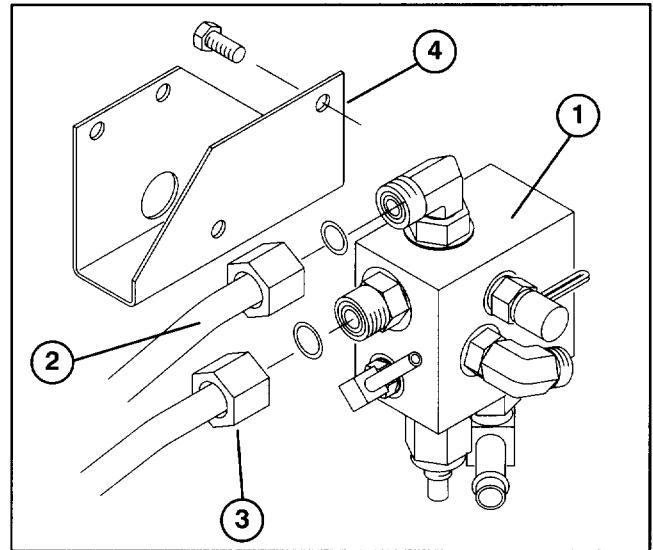

Figure 10
12. Mount manifold block assembly to manifold bracket with (2) 5/16-18 x 5/8" lg. flange head capscrews (Fig. 10). Torque screws to 145-190 in. lbs.
13. Loosely install other end of shorter hydraulic tube to elbow fitting on top of manifold block (Fig. 10).
14. Loosely install other end of longer hydraulic tube to straight fitting on front of manifold block (Fig. 10).